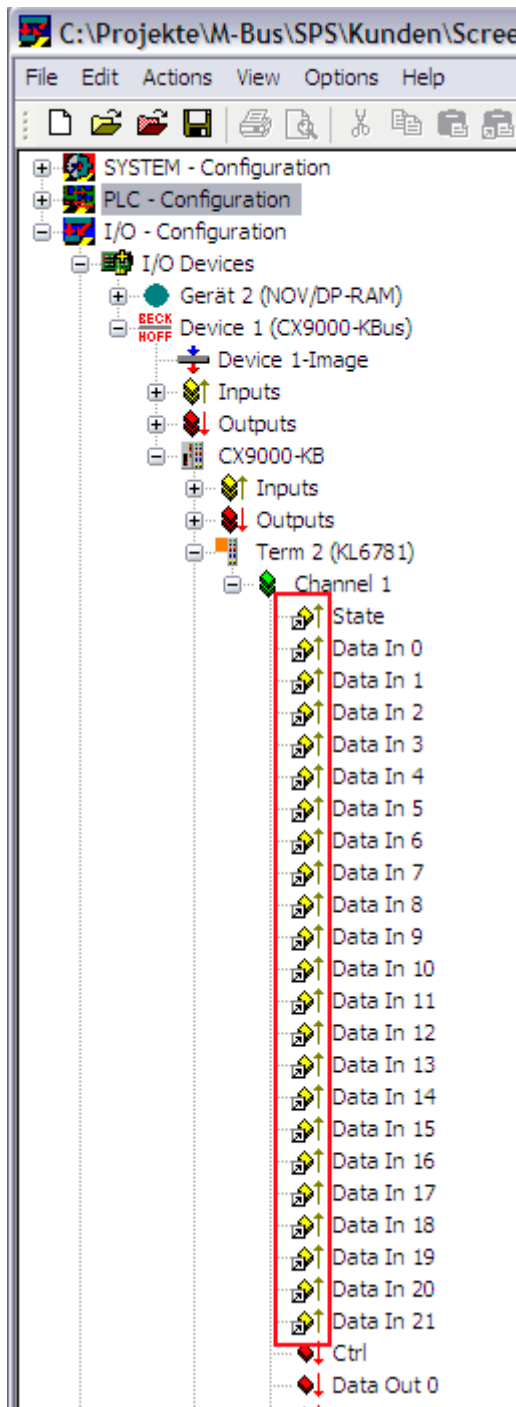

Figure 3
7. Check the links. To do this go onto the KL6781 and open it. All the terminal's data should now be marked by a small arrow (see Figure 3). If that is the case, then proceed in exactly the same way with the outputs.